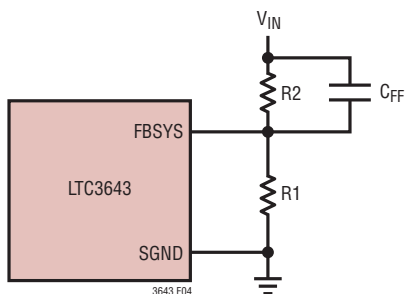

Figure 4. Setting The  $V_{IN}$  Voltage In Step-Down Mode
**FBSYS (Pin 8):** Feedback Input to Step-Down Regulator Control Loop. Connect a resistor divider tap to this pin. The VIN voltage can be adjusted such that  $V_{IN} = 0.6V (1 + R2/R1)$  (See Figure 4).